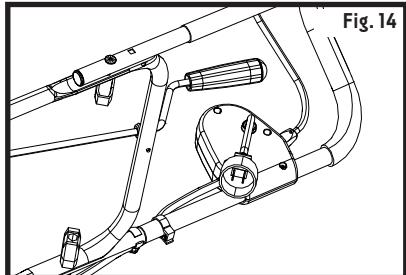

Fig. 14
4. Note that the snowblower has a polarized male plug – one prong in the plug is slightly longer and wider than the other (Fig. 14). The extension cord female end should be likewise polarized so that the extension cord fits snugly into the snowblower plug.